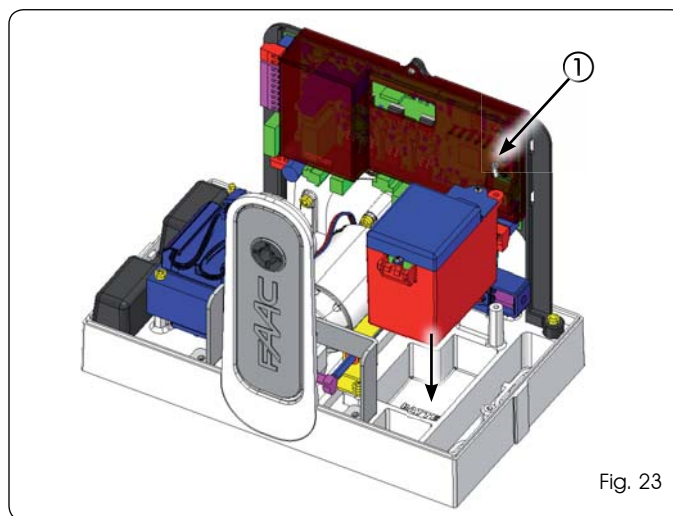

Fig. 23
Install the battery kit as shown in Fig. 23, inserting it in its seat and securing with screw re. ①. Connect it to the appropriate connector on the board (see relevant instructions).